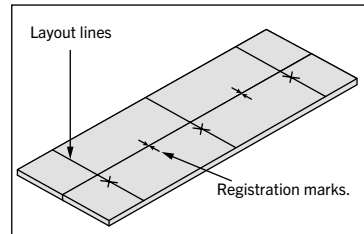

Fig 15. Layout lines and registration marks.
3. Use a square to draw layout lines across boards through marks, then make registration marks on edge of each board to ensure correct edge is cut (see Figure 15).